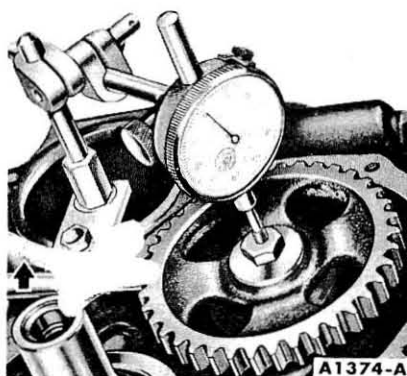

FIG. 51—Camshaft End Play
15. Push the camshaft toward the rear of the engine. Install a dial indicator so that the indicator point is on the camshaft sprocket cap screw (Fig. 51). Zero the dial indicator. Position a large screw driver between the camshaft sprocket and the block. Pull the camshaft forward and release it. Compare the dial indicator reading with specifications. If the end play is excessive, replace the thrust plate.